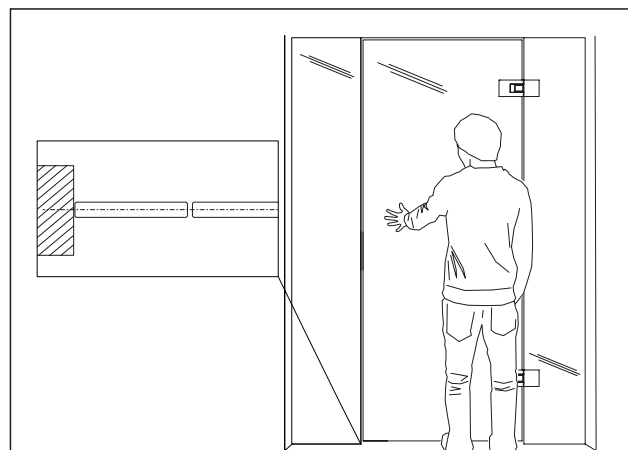

Fig. 65 Ideal "0" position from the glass door leaf to the side panel
2. Bring the glass door leaf in the ideal "0" position (Fig. 65).